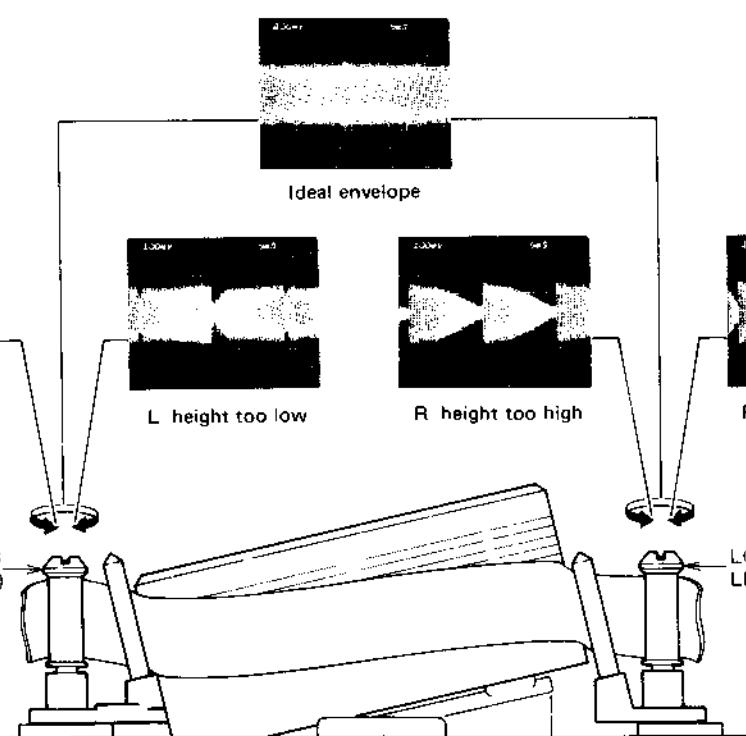

Fig. 5.13
- 4) Turn the LOADING LEADER heads with a screw driver to obtain flat RF envelope as ideal envelope shown in Fig. 5-13.